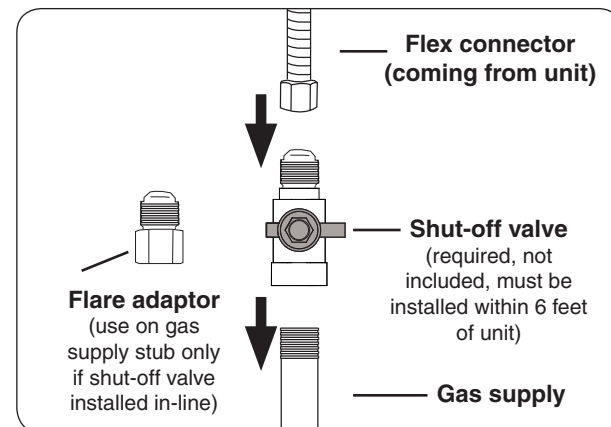

Fig. 19-3 Connecting to a gas line
- Connect the flex connector to the shut-off valve (see Fig. 19-3). Tighten securely.
- Install the supplied flare adapter to the gas supply using a pipe joint compound resistant to all gasses (see Fig. 19-3). Tighten securely.
- Connect the flex connector to the flare adapter (see Fig. 19-3). Tighten securely.